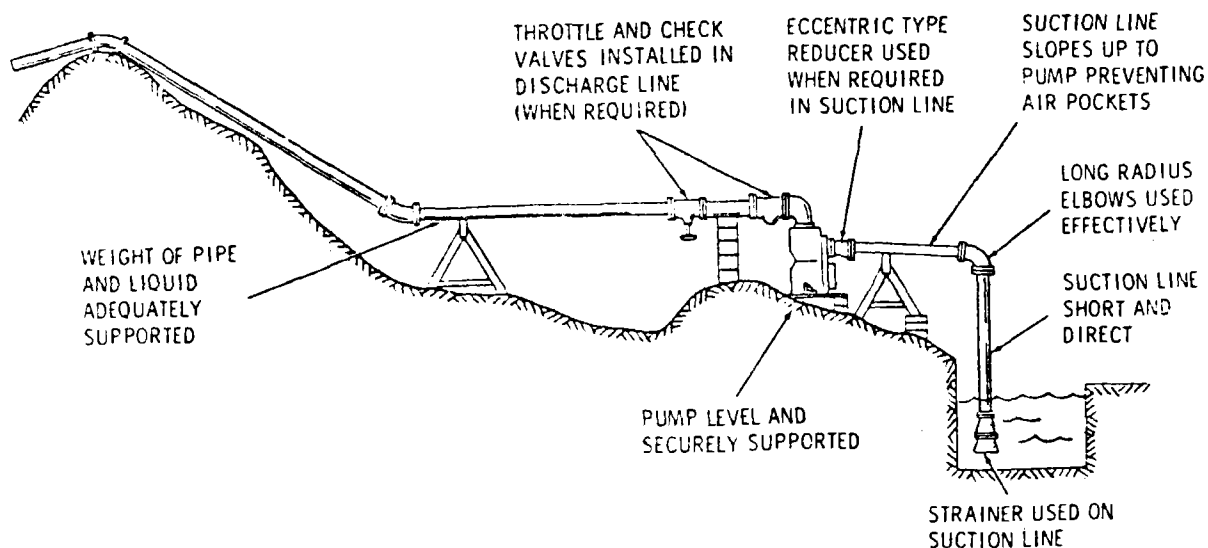

Figure 3. Examples of proper and improper pump installation.
- (1) When installing the suction and discharge lines, try to keep the lines as straight as possible to keep friction losses at a minimum. Fittings in pipe lines increase friction losses considerably. For example, a 90° elbow in a 6-inch line presents about the same friction loss as 15 feet of straight pipe. When necessary to use elbows, use the long-radius type to minimize friction loss. Use only gate-type valves in the lines since this type presents the least friction loss.
- (2) When connecting pipe lines to the pump, the connecting flange must be aligned exactly with the pump port. Never pull a line into place by tightening the flange bolts. Lines must be independently supported near the pump to avoid strain on the pump which could result in serious vibration, decreased bearing life, and increased wear of the shaft sleeve and seal. Hose-type lines should also be supported to relieve the weight of the liquid. Supports must be strong enough to secure the line when it is under pressure and filled with liquid.
- (3) Most pumps are drilled and tapped for installation of discharge pressure and vacuum suction gages. If it is desired to install these gages and the pump is not tapped, drill and tap the suction and discharge lines close to the pump before installing the lines.
- (4) Figure 3 shows two pump installations. Figure 3A illustrates a poorly-installed pump and 3B illustrates a properly-installed pump.